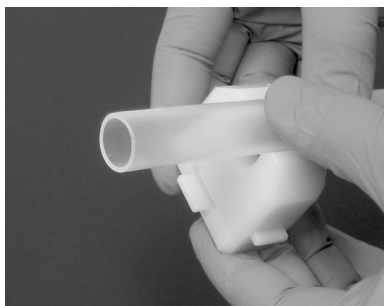

Figure 1.
3. Insert tubing into cutter until snap noise is heard or the tube is fully engaged into the opening (Figure 1).